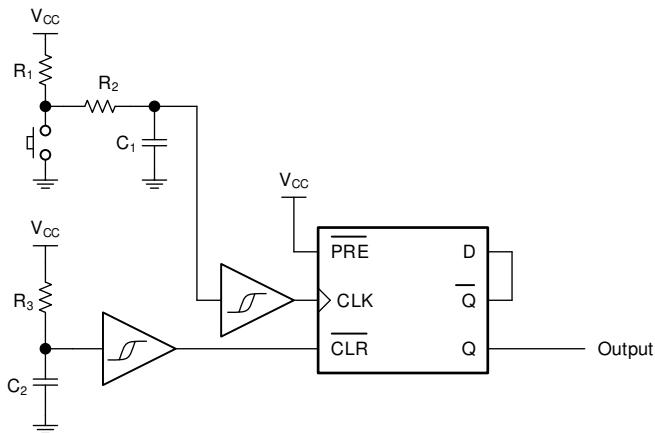

图 9. Typical application schematic
If the data input (D) of the SN74HC74-Q1 is tied to the inverted output ( $\bar{Q}$ ), then each clock pulse will cause the value at the output (Q) to toggle. The momentary switch can be debounced and connected to the buffered clock input (CLK) to toggle the output. These connections are shown in 图 9